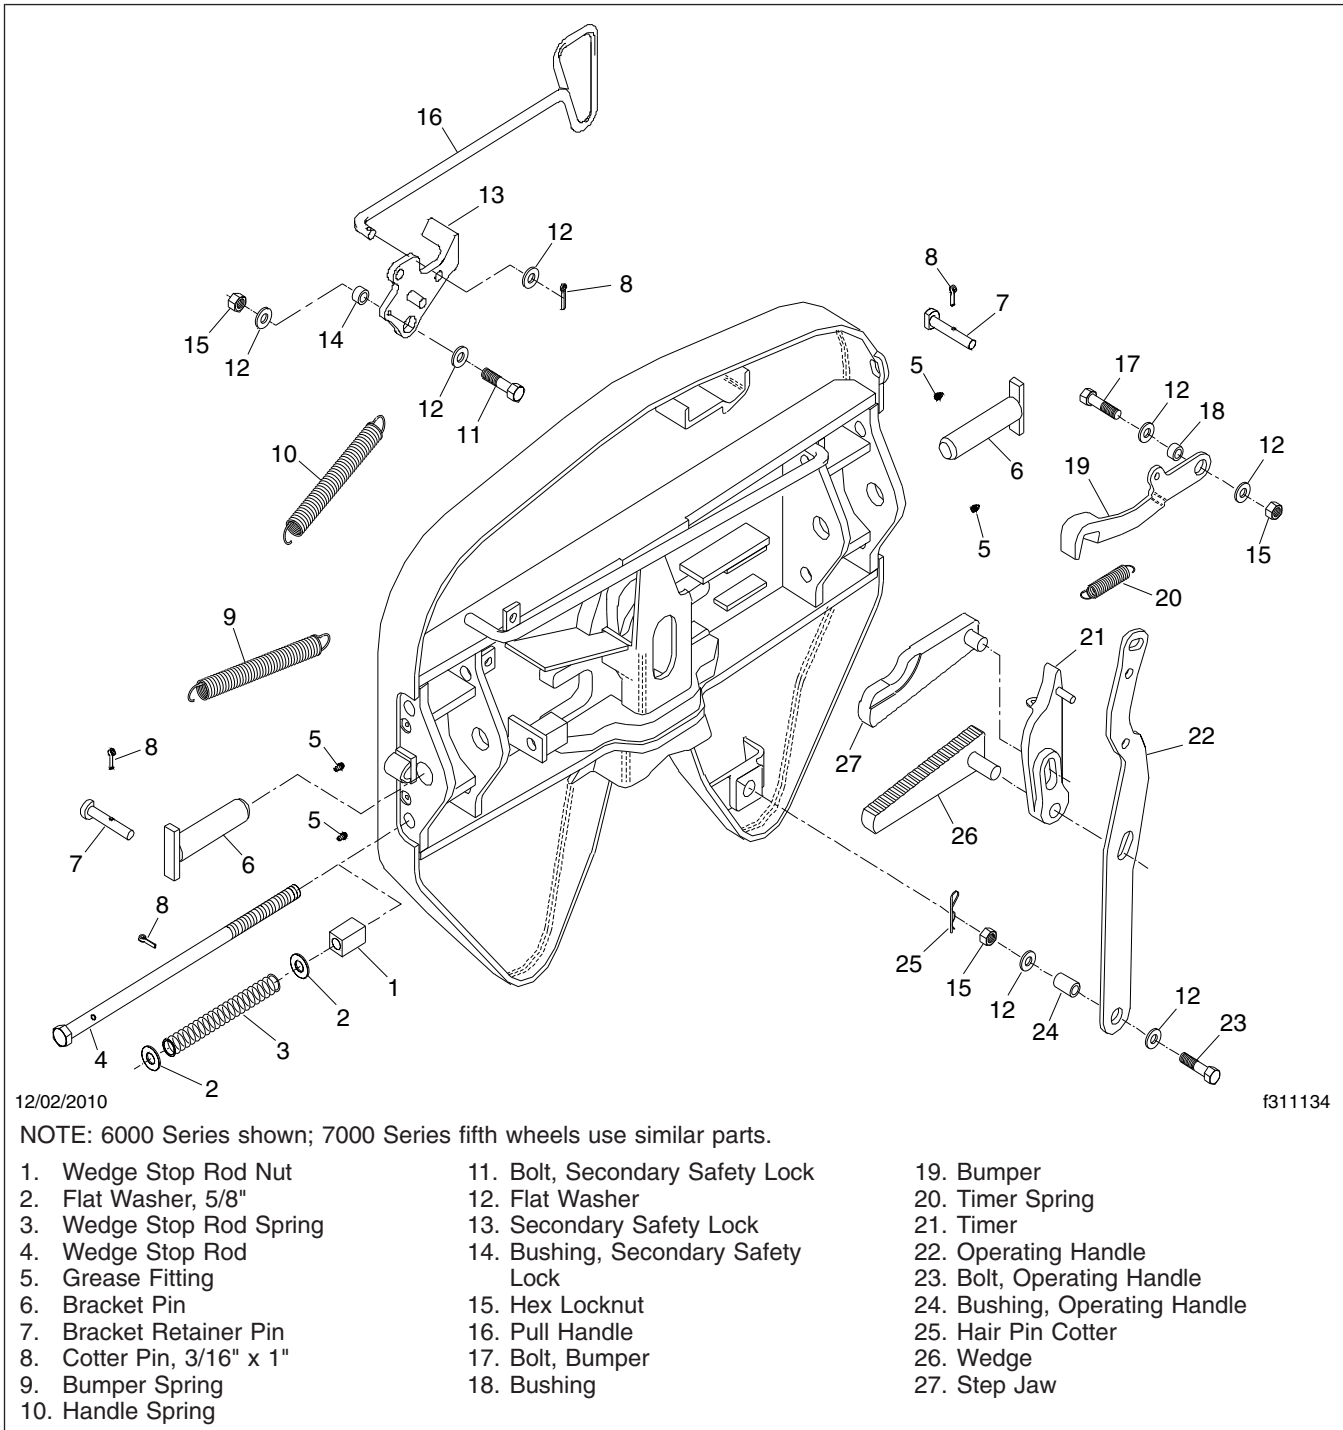

Fig. 1, Fontaine Fifth Wheel
2. Using your finger or a bent pipe cleaner, see if the fluid is level with the fill opening. See Fig. 1.
4. Ensure that both bracket pins are in place and secured by retainer pins and cotter pins. See Fig. 1.